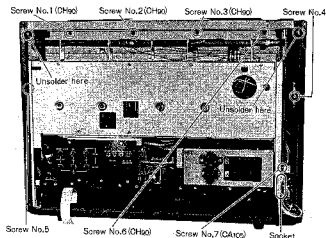

Fig. 12
12. Loosen the two (2) jack screws (nos. 4 & 5), as shown in fig. 12.
14. Pull out socket from chassis, as shown in fig. 12.
15. Remove the five (5) screws (nos. 1~3, 6 & 7) for the chassis and whip antenna, as shown in fig. 12.
19. Unsolder lead wires from cabinet, as shown in fig. 12.